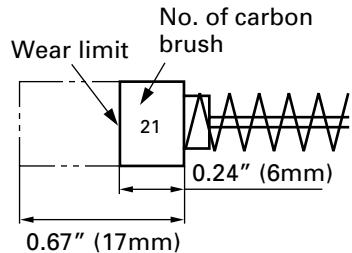

Fig. 6
4. Inspecting the carbon brushes (Fig. 6)
Use HITACHI carbon brush No. 21 indicated in Fig. 6.